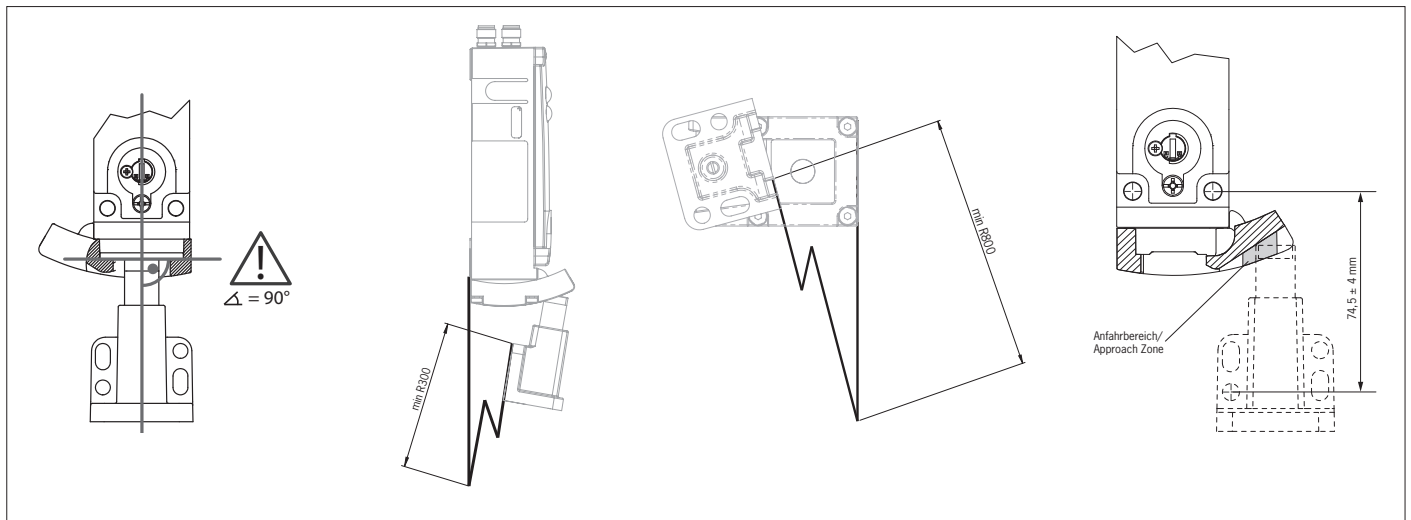

Figure 3: Door radii and approach zone
- ▶ Observe the min. door radii (see Figure 3).
- ▶ the active faces of the actuator and the safety switch are parallel to each other (see Figure 3).
- ▶ the actuator is fully inserted into the switch recess when the safety guard is closed (see Figure 3).